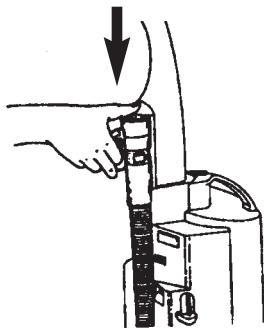

Figure 10a
2. Rotate the Upper Cord Hook down so that it fits snugly on top of the Hose Handle. Grab the Hose Handle and press down firmly on the colored Wand Release Button. (See Figure 10a.)